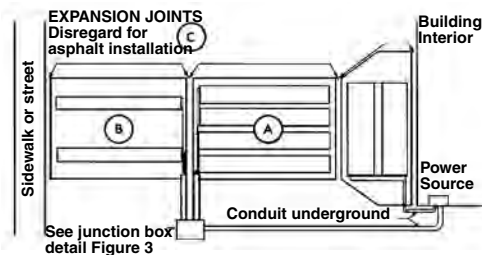

FIGURE 1
1. **GENERAL.** Measure and plan area to be protected by snow melting mats and allow for obstructions such as light poles, etc. For total snow removal, select mats to cover the entire area—See Section (A), Figure 1. For large installations, it may be desirable to melt snow and ice only from most frequently used areas such as tracks for trucks and autos and for walkways—Section (B) Figure 1. Also consider the possibility of planning for separate circuits so that areas within the system can be heated independently as required.
2. **FOR CONCRETE:** Determine location for expansion joints which must be placed wherever the slab changes size or direction and at **no more than twenty feet maximum between joints**—Section (C), Figure 1. **MATS MUST NOT BE RUN THROUGH EXPANSION JOINTS, CONSTRUCTION JOINTS OR CONTROL JOINTS.** Concrete forms may be inaccurate, so allow 2 to 4 inches on each side of the mats for clearance. Allow approximately 4 inches between adjacent mats at expansion joints.
1. Locate raintight junction boxes above ground per plan. Run power supply conduit underground, outside the slab, or in prepared base as described in item 3 of **PLANNING INSTRUCTIONS.** See Figure 1. For concrete, this should be done prior to placement of reinforcing mesh.